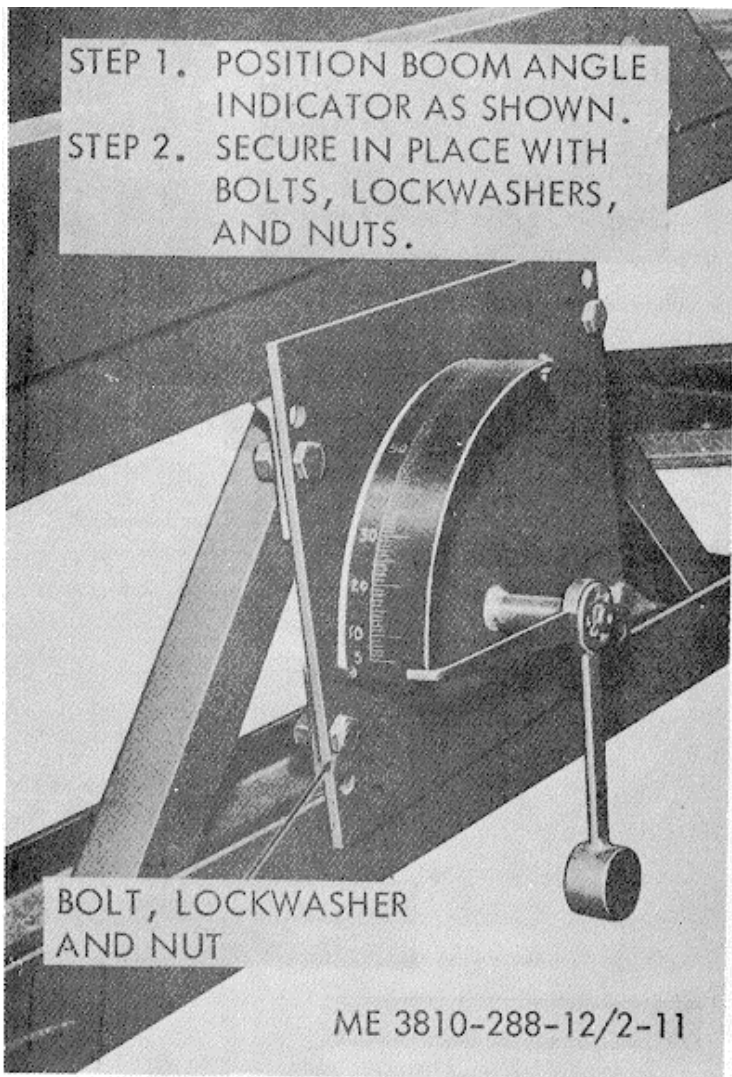

Figure 2-11. Crane boom angle indicator installation
c. *Crane Boom Angle Indicator Installation.* Refer to figure 2-11 and install the boom angle indicator.